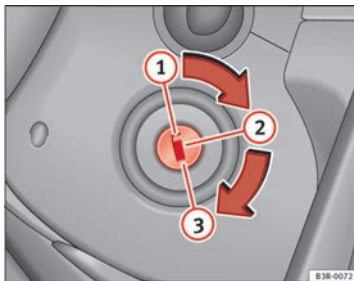

Fig. 147 Ignition key positions
- Turn the ignition key to position  ⇒ Fig. 147. ▶